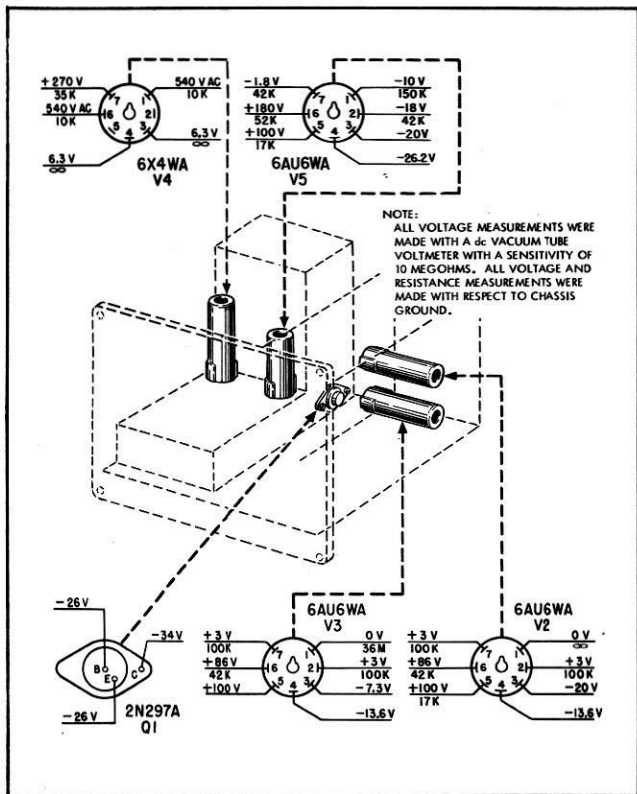

Figure 5-3. Voltage and Resistance Measurements and Tube Location Diagram
(3) If the ohmmeter or milliammeter functions do not operate properly, check fuses F2 and F1 (refer to paragraph 3-5b(2) for fuse replacement procedures).
(4) Tubes that are thought to be faulty should be tested. Tube substitution - replacing suspected faulty tubes with known good ones - is a method of remedying many troubles. Tapping suspected tubes with the finger or jarring the unit may disclose intermittent trouble.
b. ELECTRICAL INSPECTION. - If the visual inspection fails to locate the fault, an electrical inspection must be made. The electrode voltage of all tubes should be checked at the tube sockets, and the measured values compared with those given in figure 5-3. The operating voltages of all control circuits should also be determined, and then compared with those shown in figure 5-9 (see test points    and  ). Voltages differing greatly from specified values indicate a fault in the circuit under test. When incorrect voltages are found, resistance checks should be made in order to determine the cause. The resistance values are also given on figure 5-3.
(4) All components within multimeter are now accessible for repair or replacement purposes.
c. **FUNCTIONAL SECTION TROUBLE-SHOOTING CHART.** - The functional trouble-shooting chart (refer to table 5-2) describes the checks that should be made to isolate the particular part at fault. Follow the instructions given in the table. Note that the second column of the table lists the test point symbols shown in figure 5-9. Refer to figure 5-3 for tube pin voltage and resistance measurements and for the tube location diagram.